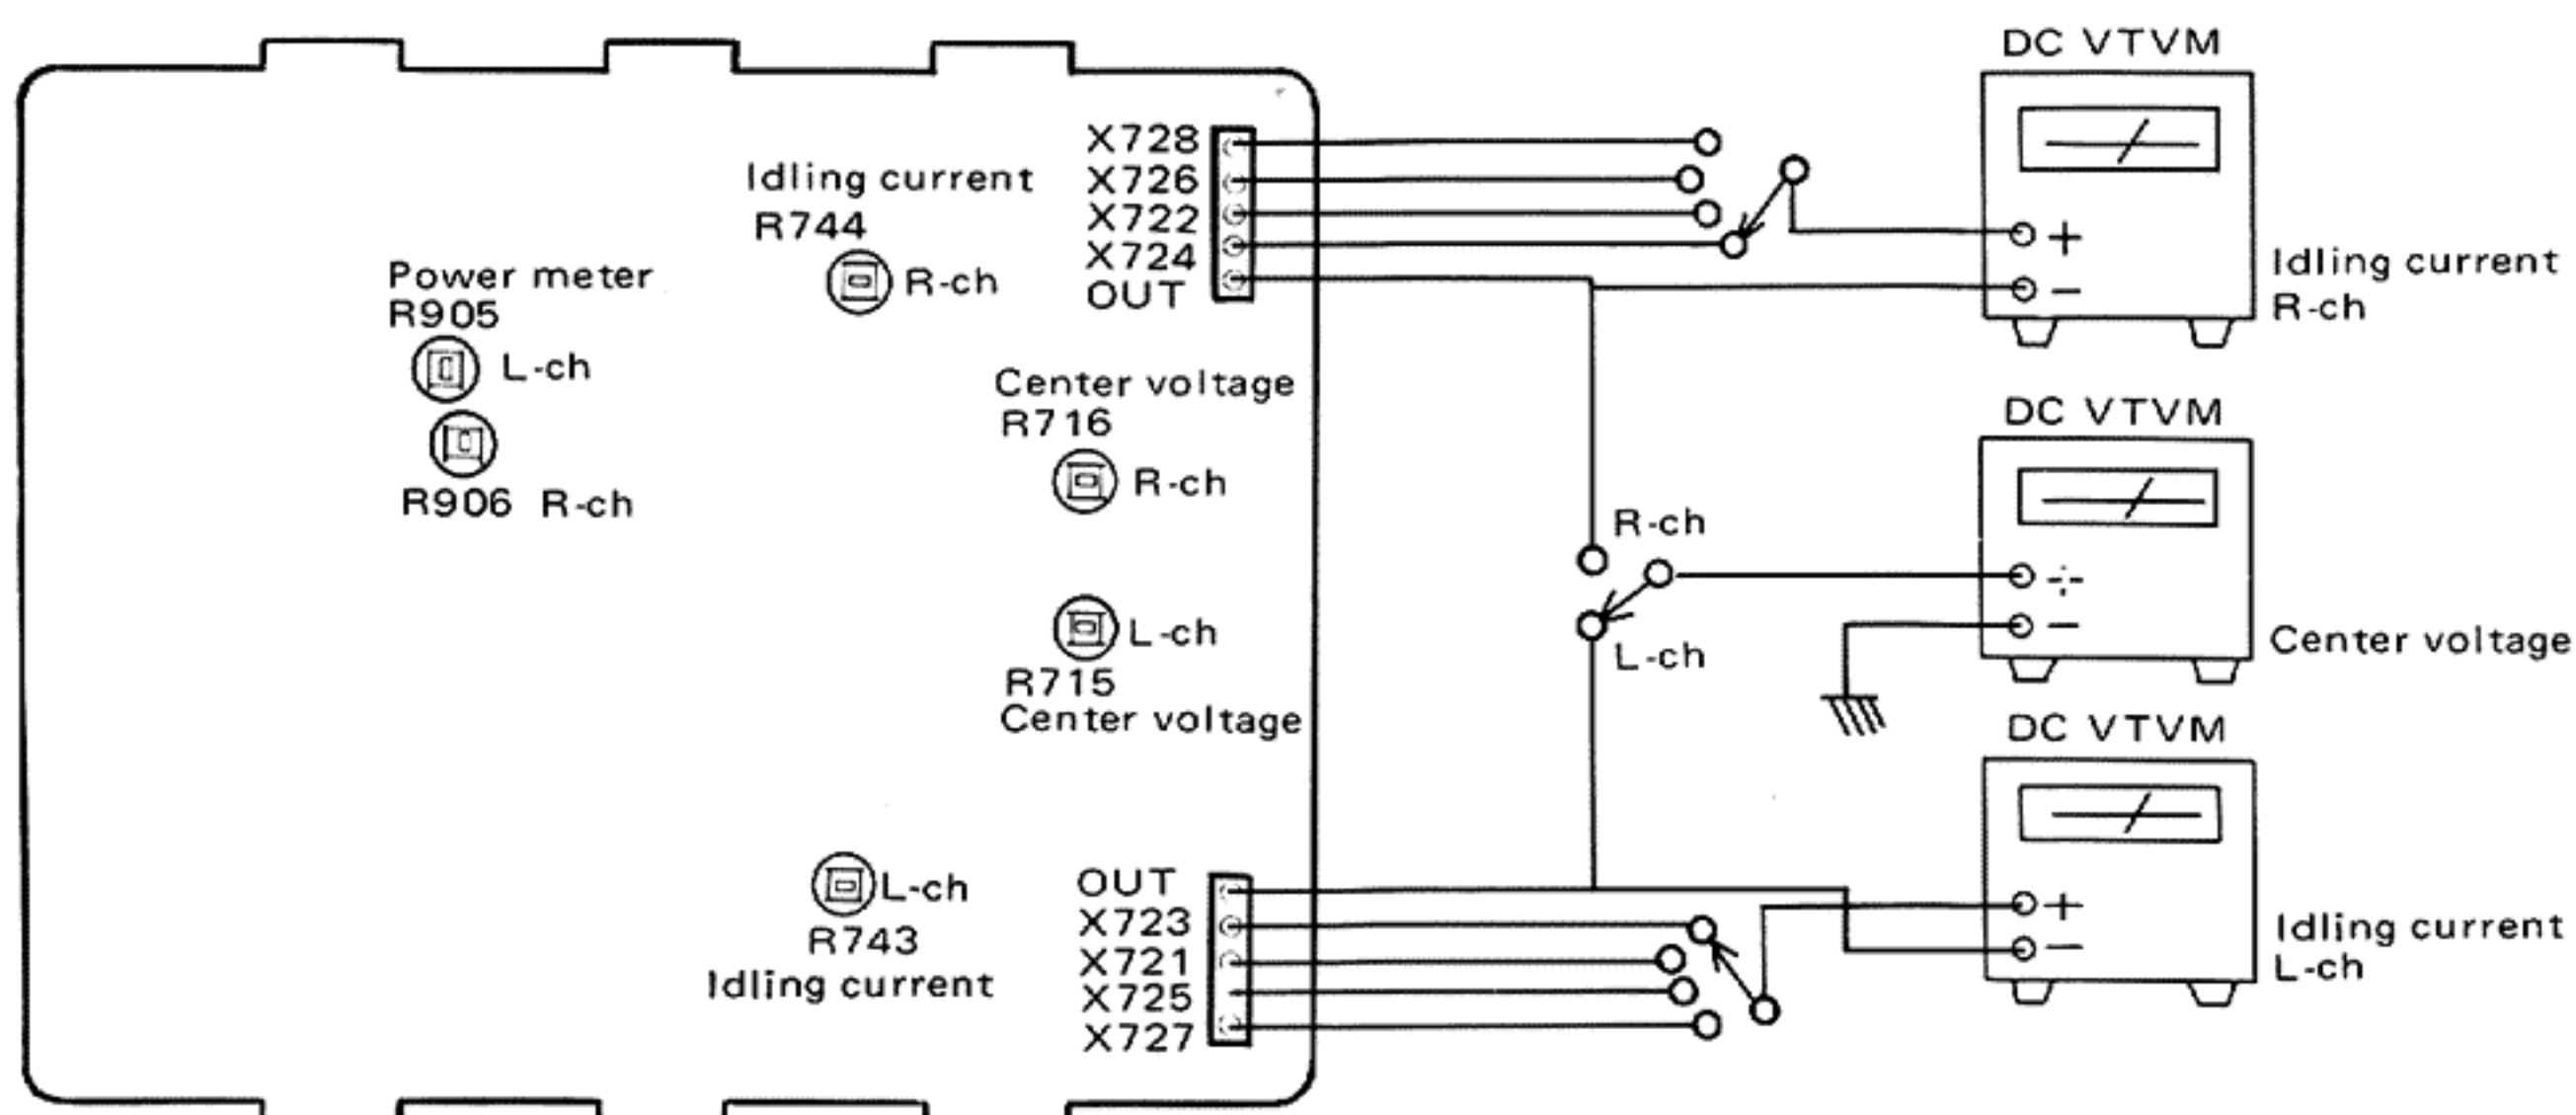

Fig. 22
1. Turn R743 and R744 fully counterclockwise before pressing the power switch on. Refer to Fig. 22.
2. Connect a DC VTVM to test points "X723, 721, 725, 727" (X724, 722, 726, 728). Refer to Fig. 22.